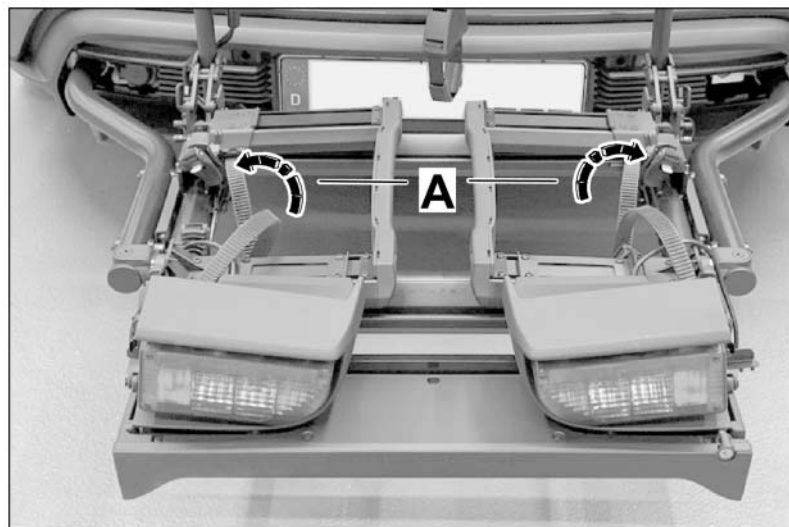

Figure 14
14. – Fold the flaps. The flaps ⇒ *Figure 14 -LHD vehicle* - are folded outwards. These must not be pressed downwards because this could damage them.